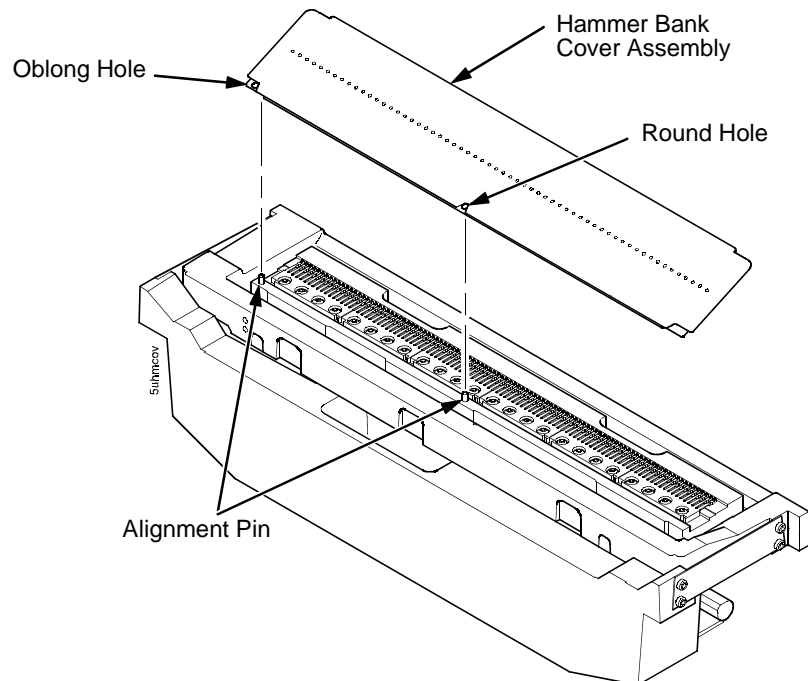

Figure 23. Hammer Bank Cover Assembly
3. Lift the thick plate of the hammer bank cover assembly at one end, and peel the cover away from hammer bank magnets. (See Figure 23.)
1. With the thick plate facing the hammer bank, hold the hammer bank cover assembly at a slight angle and engage the bottom edge on the alignment pins. First engage the center (round) hole, then the left (oblong) hole, to ensure that the cover lies flat on the hammer bank. (See Figure 23.)